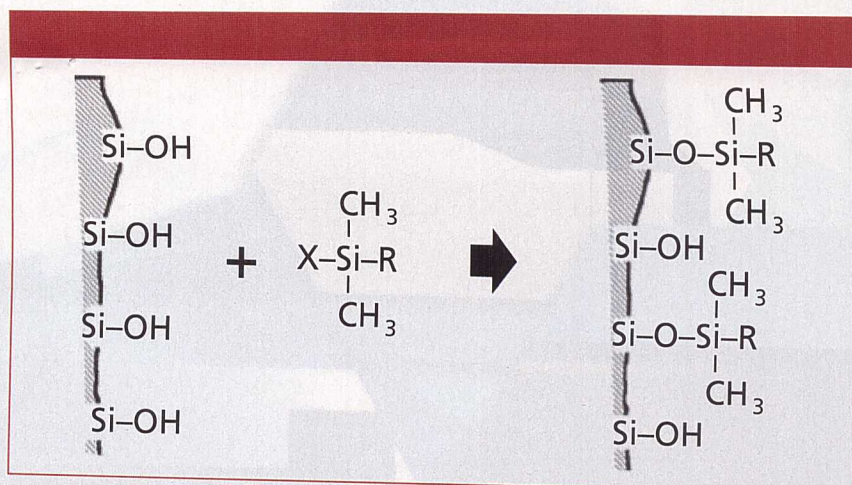

Figure 1: Illustration of adding the bonded phase to a silica surface. See text for details.
the bonded phase. For example, consider a silanol reagent $\text{X-Si}(\text{CH}_3)_2\text{R}$, where X is a reactive chloro or ethoxy group and R is $\text{C}_{18}\text{H}_{37}$; a C18 bonded phase could be created by forming a “silyl ether” as shown in Figure 1. Because the C_{18} group is quite bulky, only part of the free silanols on the silica surface are bonded in this reaction because of steric hindrance. Most C18 columns are further bonded through an endcapping process to increase column stability and reduce the population of unbonded silanols. This is the same reaction but uses a smaller trimethyl reagent: $\text{X-Si}(\text{CH}_3)_3$. Even with “complete” bonding and endcapping, approximately half of the silanol surface remains unbonded. As we saw last month (3), these residual silanols can be a source of strong chemical interaction with the analyte or other sample components.
The bonded phase illustrated in Figure 1 is quite easy to form. Unfortunately, under the right conditions, it is also easy to destroy. When the mobile-phase pH is too low, the silyl ether on the right of Figure 1 can be hydrolyzed, gradually returning the surface to the condition at the left of Figure 1. This hydrolysis generally is a concern for mobile-phase $\text{pH} < 2$ for most reversed-phase columns, although there are exceptions as noted below.